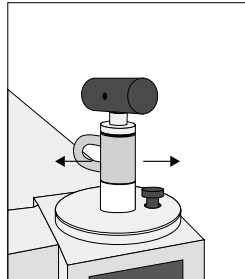

Figure 3
- Check if the Twist anchor is completely attached in the pocket. (Figure 3)